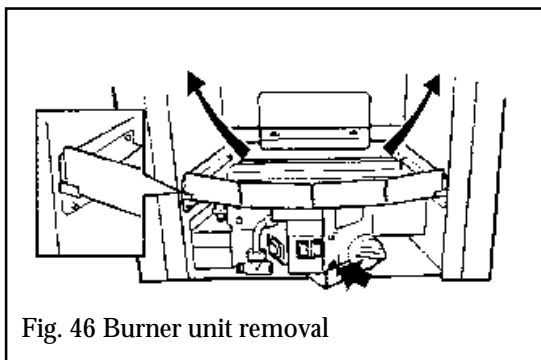

Fig. 46 Burner unit removal
- Detach the burner unit from the firebox, by removing the support bracket fixing screw at the lower front region of the burner unit. (See figure 46). Carefully lift the burner unit forward making sure that the unit does not snag on any leads. Rest the burner on its front face to allow access to the pilot and gas tap.